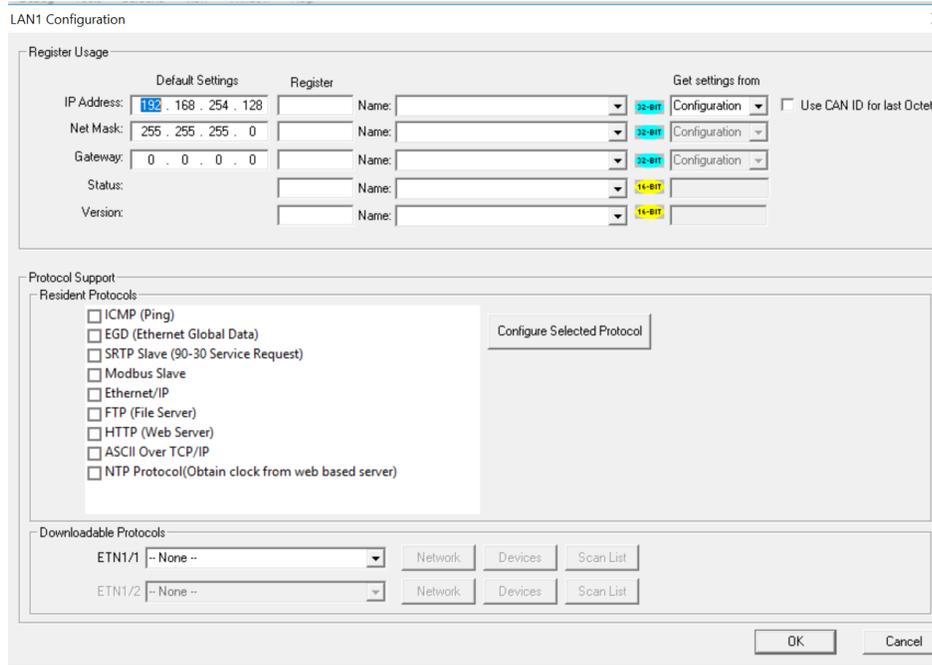

Figure 11.2 - Ethernet Module Configuration
3. Click the **Config** button to the right of LAN1 revealing the Ethernet Module Configuration dialog as shown in Figure 11.2.